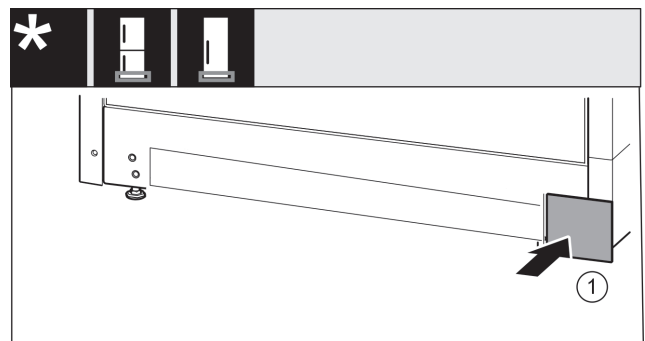

Fig. 40
- ▶ Re-attach the cover Fig. 40 (1) on the other side.